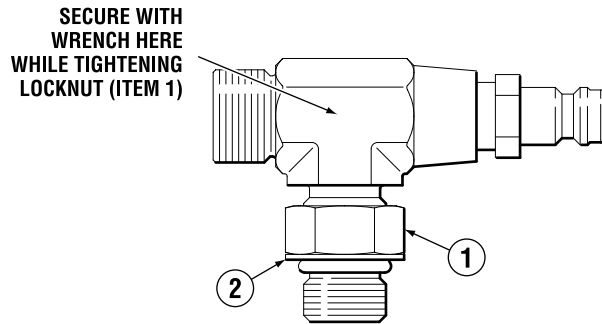

Figure 5-20. Re-orientable hose fitting.
1. Back off lock nut (item 1 in figure 5-20) counter-clockwise, until it stops.
2. Thread fitting into the cylinder port until the fitting washer (item 2) contacts the face of the cylinder port. Tighten hand tight. **DO NOT USE A WRENCH.**